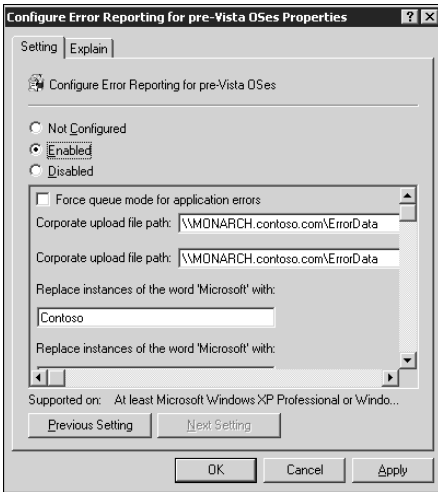

FIGURE 23.13 Client AEM settings reflected in default values of the Group Policy Object settings.
You can use familiar AD tools such as AD Users and Computers and the Group Policy Management Console to import the AEM.adm template file into a new or existing GPO, and link the GPO to an AD Organization Unit (OU). With the GPO open for editing, just clicking Enable on the desired GPO setting exposes the customized values, and AEM begins working in the domain. Figure 23.13 displays the actual GPO settings entered during the Enable AEM Wizard step shown in Figure 23.12.